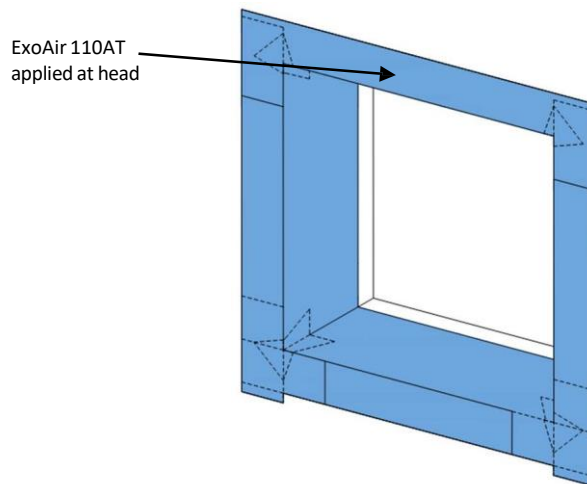

Fig. 16
- e. Install ExoAir 110AT onto the head 3" minimum into the rough opening and onto the exterior wall and extending 3" passed the rough opening on either side. – Figure 16.